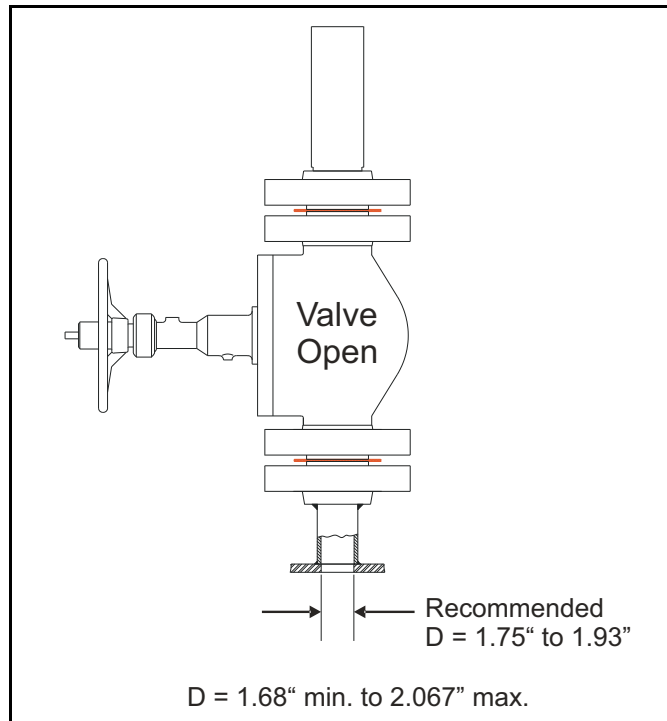

Figure 9: Drilling a Hole Through the Pipe Wall
5. Drill a 1.75 in. diameter hole through the pipe wall, as shown in *Figure 9* below.